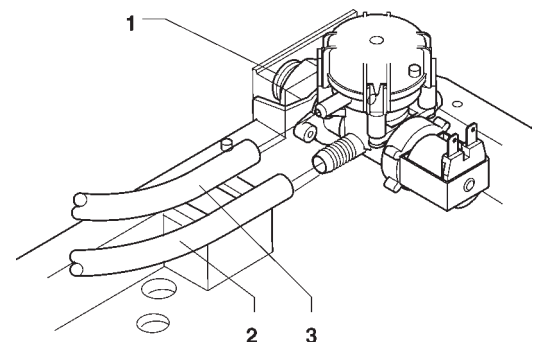

Fig. 12
Use a hose (also available as a kit) capable of withstanding the water mains pressure and suitable for use with foodstuff (min. inside diameter of 6 mm) to connect the water supply to the union (3/4" gas) of the water inlet solenoid valve (see Fig. 12).
The water inlet solenoid valve (see Fig. 12) is equipped with an overflow device which mechanically stops the water inlet if there is a malfunction in the solenoid valve or in the boiler water level control device.
- loosen the nut which secures the solenoid valve supply hose to relieve the water mains residual pressure and then tighten again (see Fig. 12);